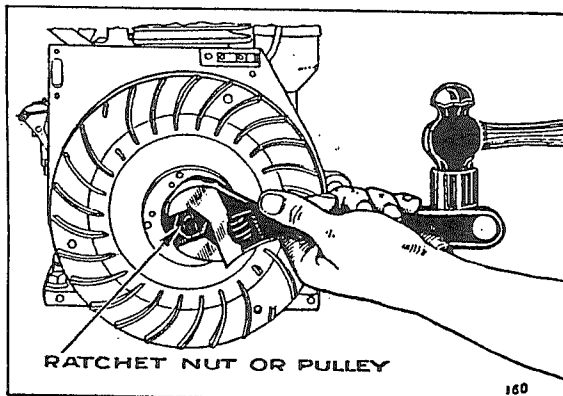

Fig. 6.
42. Replacing the flywheel. When completing any necessary work, replace the flywheel, being sure to use the soft Woodruff key supplied. The key is only for the purpose of locating the flywheel on the crankshaft in the correct position so that the magneto will be correctly timed. The flywheel is driven, however, by being a tight taper fit on the taper of the crankshaft. This taper is shown in Fig. 6.) In case the flywheel should come loose, the soft Woodruff key is designed to shear off so that no damage will be done. Therefore, A STEEL KEY SHOULD NEVER BE USED. After the flywheel is in place, has been located with the key and nut or pulley has been screwed up, this nut or pulley should be made VERY TIGHT. This can be done as shown in Fig. 7 by striking the wrench handle or bar with a hammer.